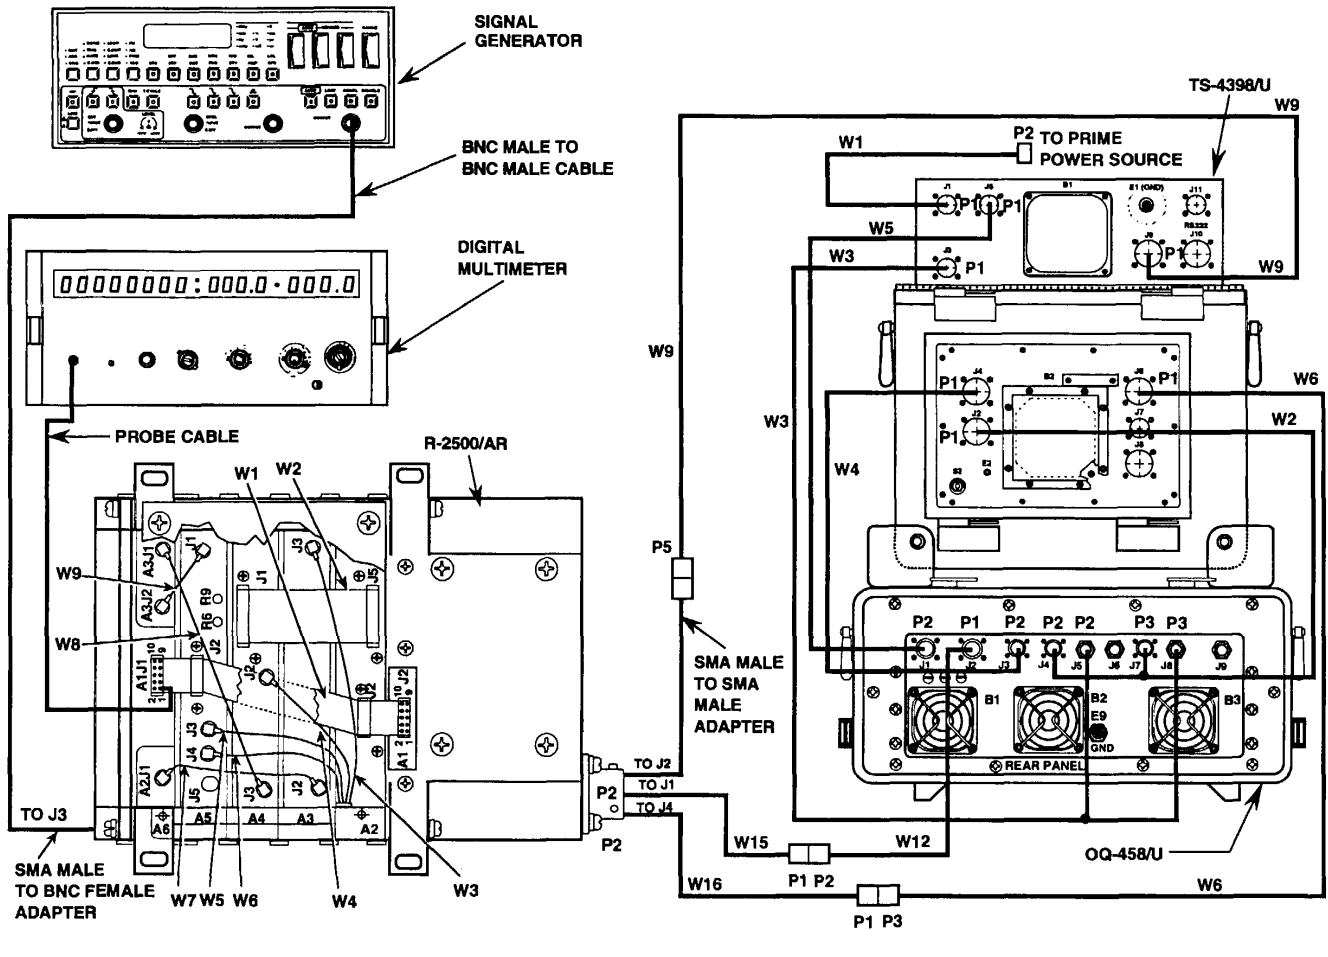
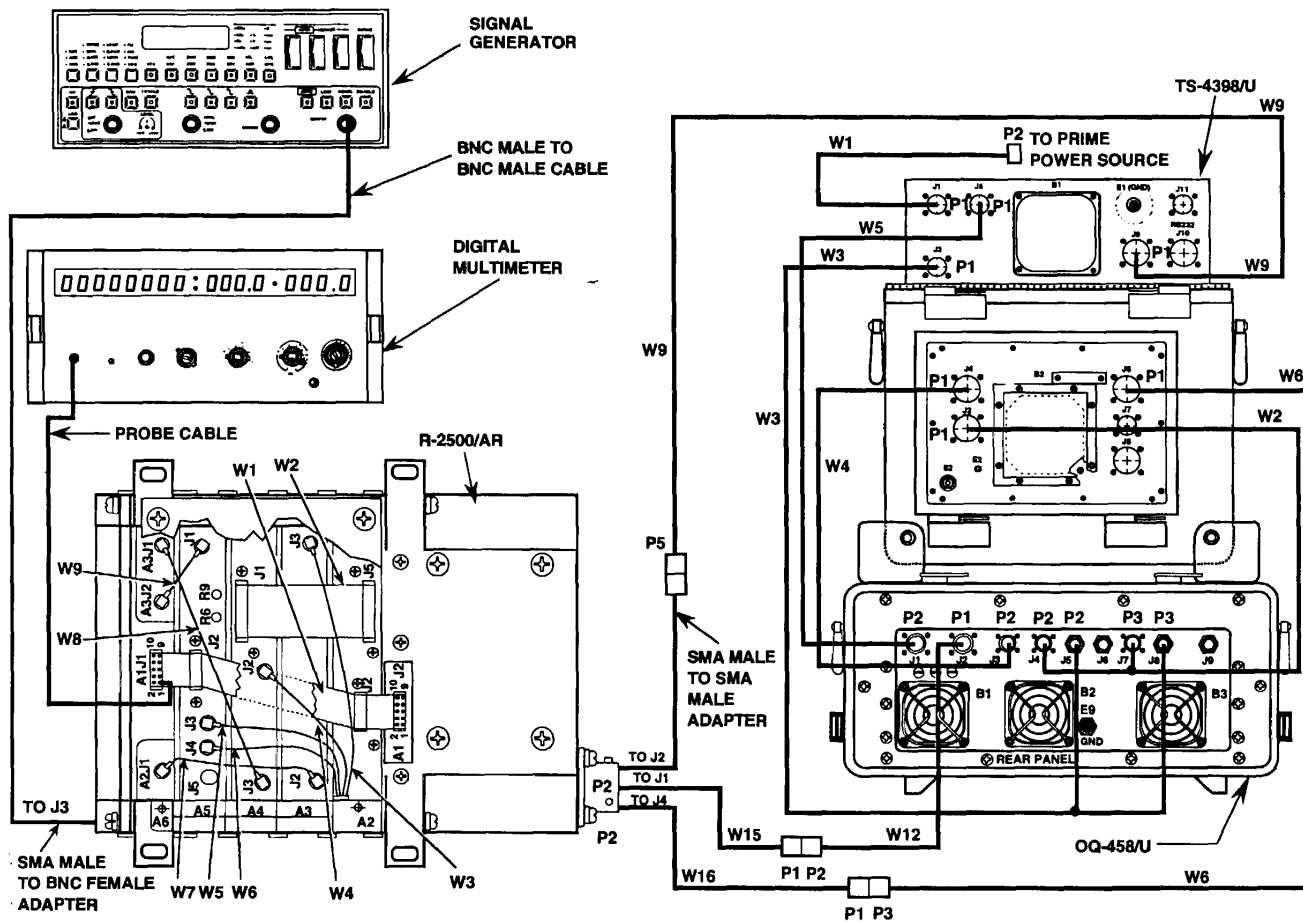
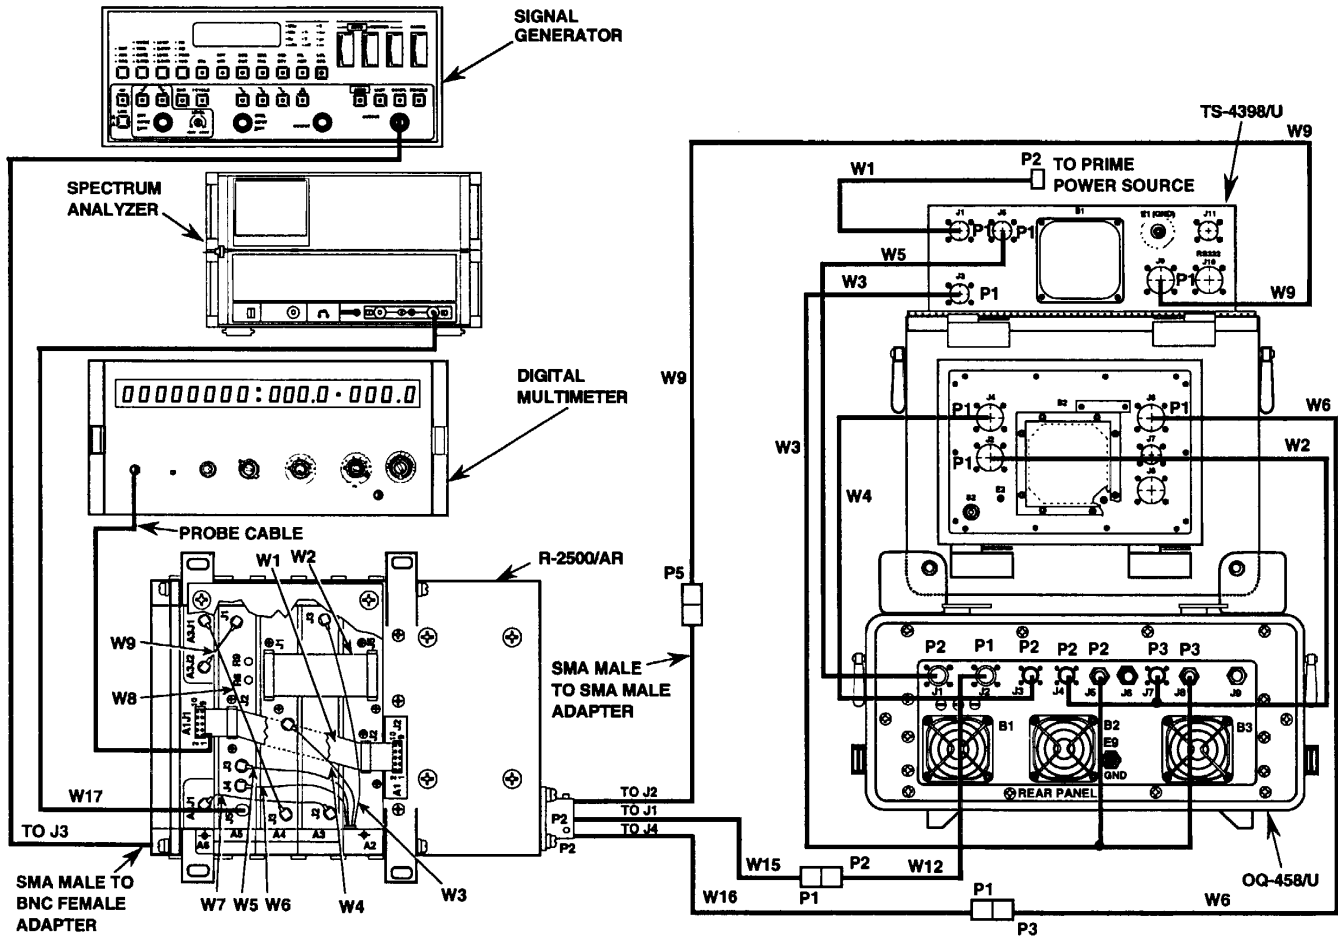

FIGURE 5-46. R-2500/AR ELECTRONIC COMPONENT ASSEMBLY OUTPUT TEST INTERCONNECTIONS.
FIGURE 5-47. R-2500/AR PREDETECTION OUTPUT TEST INTERCONNECTIONS.
FIGURE 5-48. R-2500/AR A5J5 OUTPUT TEST INTERCONNECTIONS.
The interconnections for the R-2500/AR module fault isolation test are shown in figures 5-46 through 5-49. The test controller TS-4398/U controls and indicators used during the test are shown in figure 5-45. Figure 5-46 shows the R-2500/AR electronic component module output test interconnections. Figure 5-47 shows the R-2500/AR IF output test interconnections. Figure 5-48 shows the R-2500/AR A5J5 output test interconnections. Figure 5-49 shows the R-2500/AR offset test
(1)	Connect W15PZ to J1 on R-2500/AR. Connect W15P1 to W12P2. (See figure 5-46.)
(2)	Connect W12P1 to J2 on OQ-458/U to provide 28 Vdc from AN/URN-214.
(3)	Connect an adapter to JZ on R-2500/AR and to W9P5.
(4)	Connect W9P1 to J9 on TS-4398/U to provide a 10 Mhz, 0 dBm \pm 3 dB reference signal.
(5)	Connect a cable to J3 on R-2500/AR and to the signal generator output.
(6)	Connect W16P2 to J4 on R-2500/AR. Connect W16P1 to U6P3.
(7)	Connect W6P1 to J6 of TS-4398/U to provide tuning and output connections with AN/URM-214.
(8)	Ground the digital multimeter to R-2500/AR.
(9)	Turn on the digital multimeter.
The location of pins 1, 2, 9, and 10 are marked on the AI and A6 modules in figure 5-46. The first row includes pins 1, 3, 5, 7, and 9. The second row includes pins 2, 4, 6, 8, and 10.
- (6) Adjust the signal generator output for a Level of -104 dBm.
- (7) Turn on the spectrum analyzer.
- (8) Connect W17 between the input of the spectrum analyzer and A5J5.(See figure 5-48.)
- (9) Set the spectrum analyzer to: Center Frequency of 17 MHz, Frequency Span of 100 kHz, Resolution Bandwidth of 3 kHz, video bandwidth of 100 Hz and Reference Level of -10 dBm